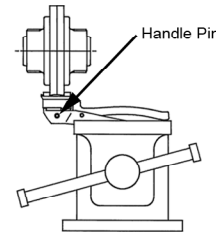

Figure 2. 1.0" to 2.0" Valves: Remove handle, if fitted, by removing the handle pin as shown to the left.
1. Secure the valve in a soft jaw vice and remove the handle or actuator as depicted below, see figures 2, 3 & 4 as applicable for your valve.